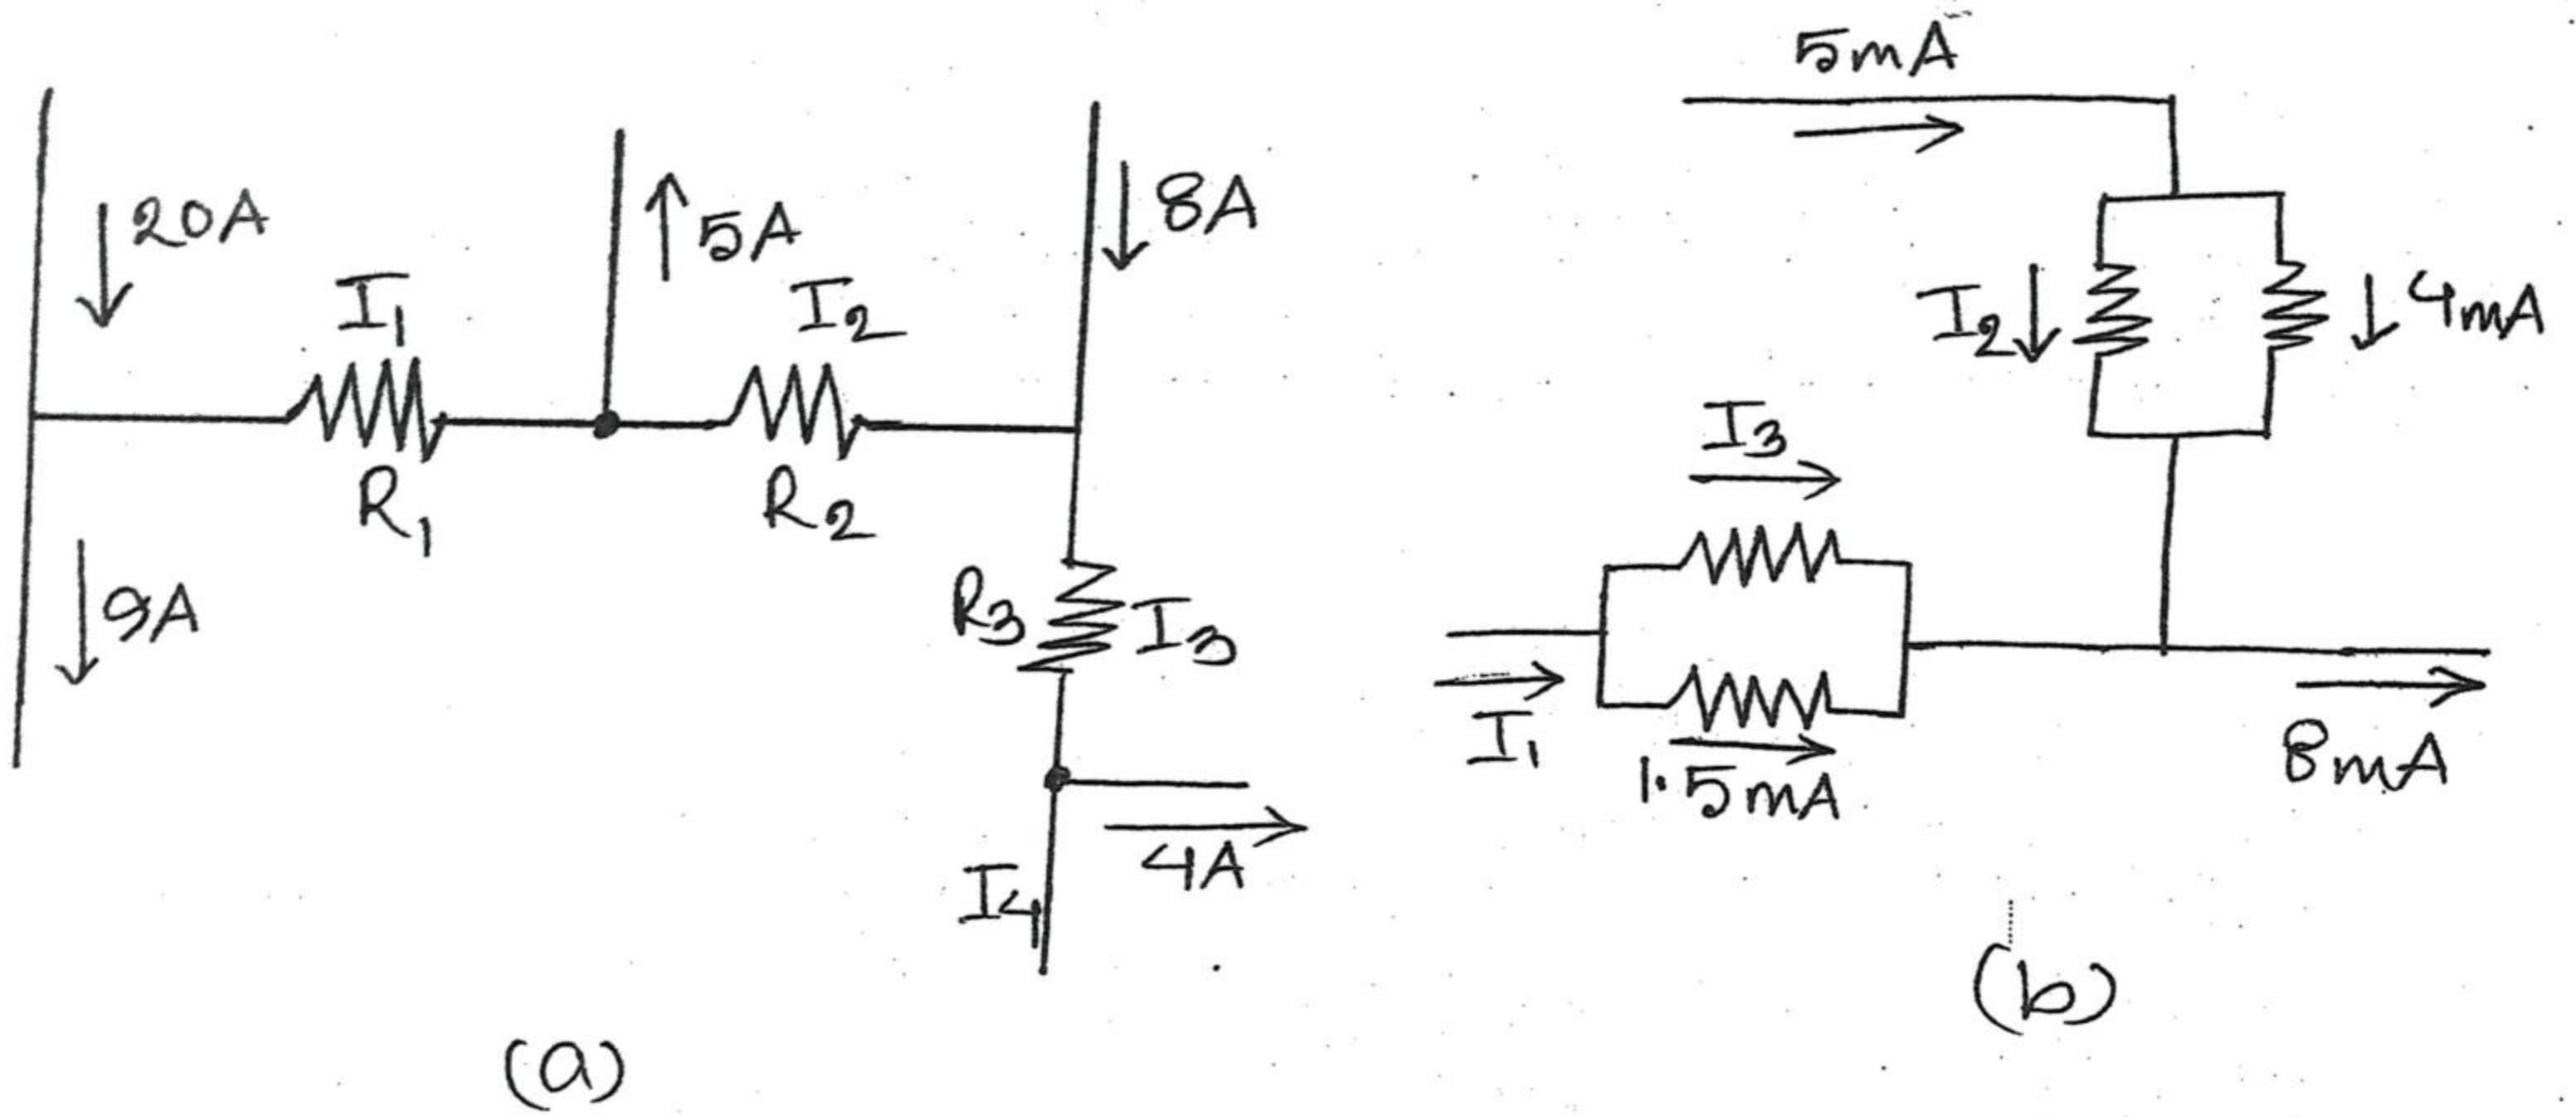

Figure: 3
- b) Using Kirchhoff's Current law, determine the unknown currents for the networks of Fig.3 (a) and (b). 5